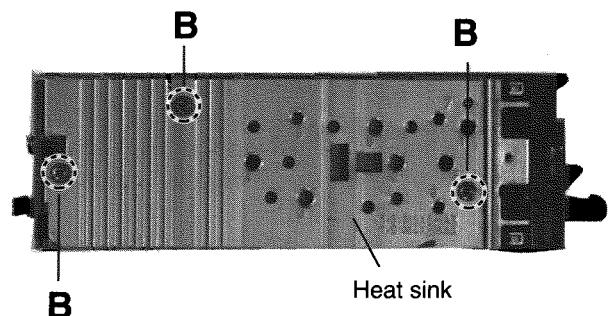

Fig. 4
■ Removing the heat sink (See Fig.4)
■ Removing the head relay P.W.B. (See Fig.4)